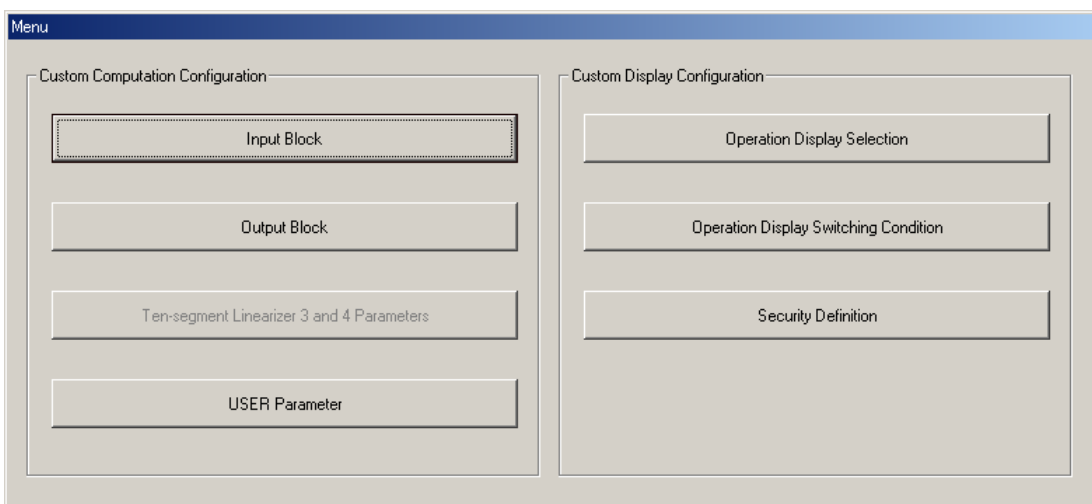

Figure 4.1.11 [Custom Computation Configuration Menu] Dialog Box
In the [Select Model and Suffix Codes] dialog box, click the <OK> button. The [Custom Computation Configuration Menu] dialog box (Figure 4.1.11) appears.
- (2) From the <Serial Port> drop-down list box, choose either COM1 to COM16.
- (3) Click the <OK> button. Data are uploaded from the controller.
- (4) When uploading is complete, the [Custom Computation Configuration Menu] dialog box (Figure 4.1.11) appears.
- (5) For the subsequent operations, see Section 4.2 and the sections/subsections that follow.
- (3) Click the <Execute> button. The LL200 tool begins uploading data from the controller.